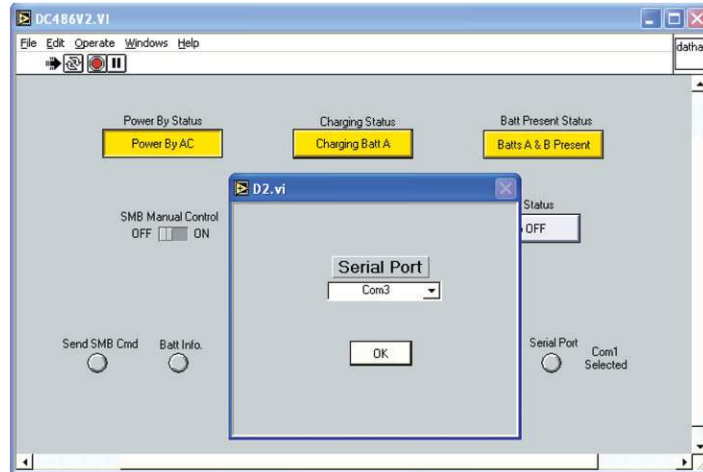

Figure 10. Launch DC486 Software and Select the COM Port Emulated in Step 8
8. Launch the software for the demo board under evaluation (e.g., DC486) and when prompted to enter the RS232 com port, use the number you obtained from step 8. If you need a copy of the software please contact Linear Technology Sales Department. For DC486, you will need dc486v2.exe. See Figure 10.